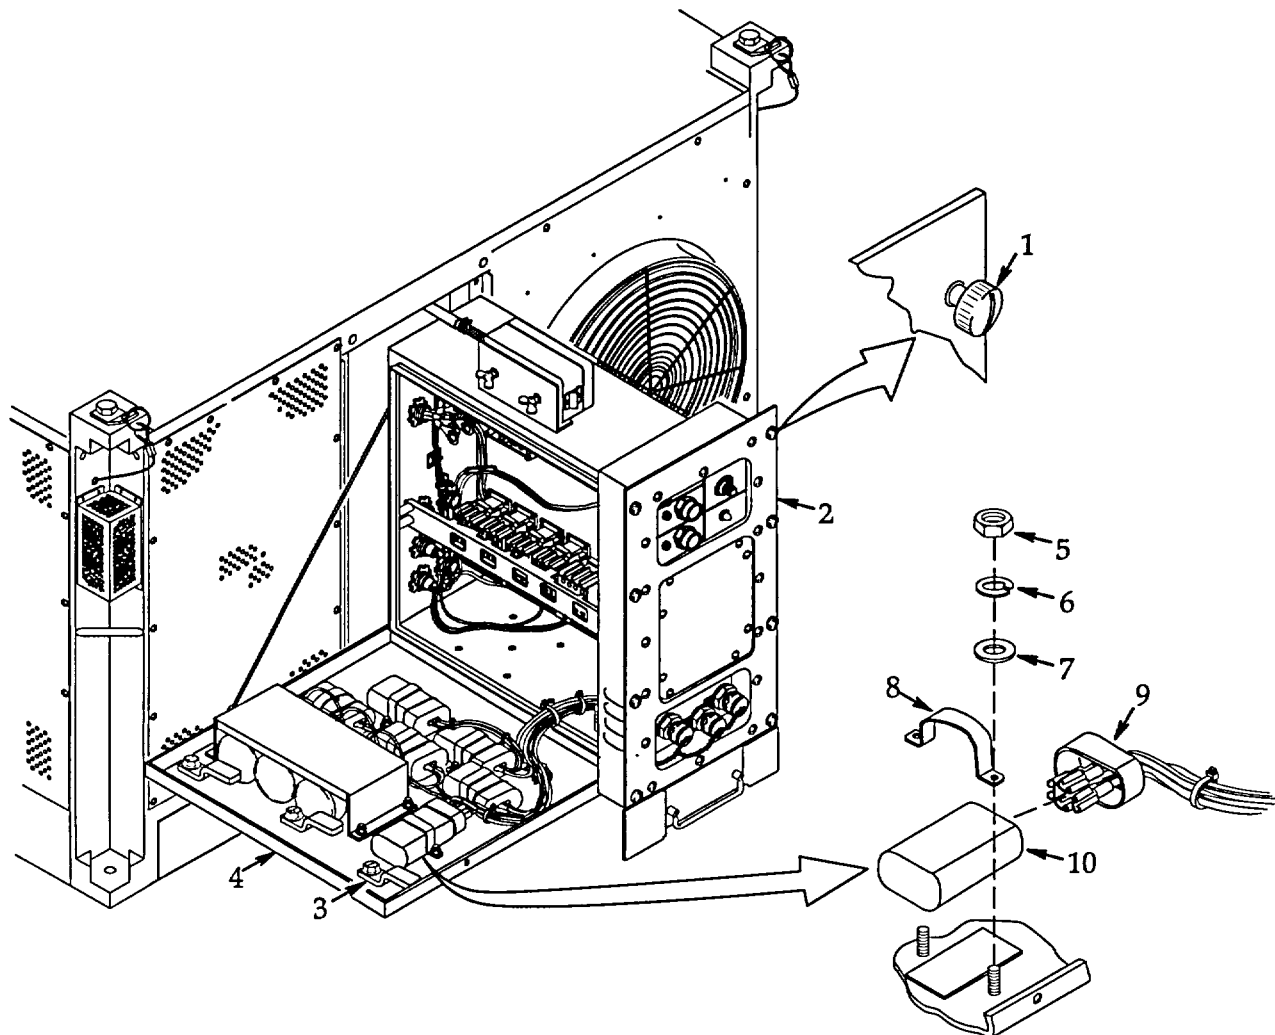

Figure 4-28. Capacitors (C1 thru C6).
- a. **Removal.** See figure 4-28.
b. **Installation.** See figure 4-28.